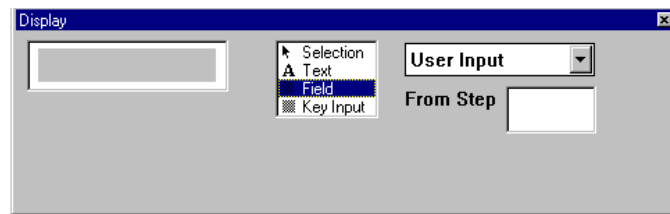

Figure 2-48 Field Tool Selected
1. Click the **Field** tool (Figure 2-48).